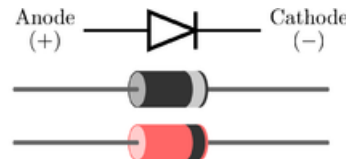

Figure 3. Diode circuit symbol with anode/cathode labeled
Figure 3 defines the device current and voltage polarity convention for diodes. Conventional current flows from the anode (P) to the cathode (N). The terms, anode and cathode, appear in technical literature regarding semiconductor diodes.
The circuit shown in Figure 3 is used to display the I-V characteristics of two-terminal devices. Circuit components are chosen so that the desired test can be performed without exceeding the ratings of the Device-Under-Test (DUT). Examples 1 and 2 illustrate test set design. The following is a quick reference summary of the components.
1. Open a new Multisim circuit. Add a generic virtual diode to the schematic and connect the anode to the positive output of an AC source. Ground the remaining terminals as shown in Figure 3: